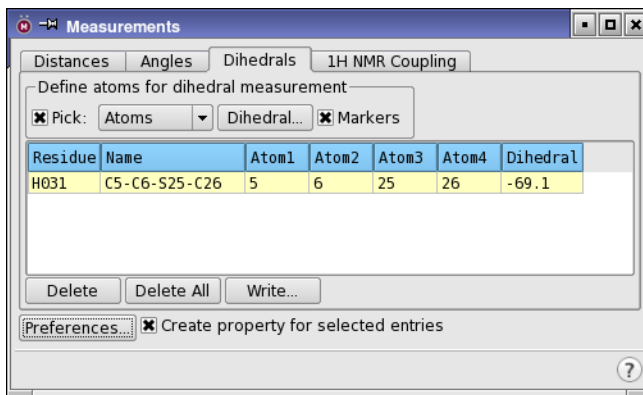

Figure 2.13. The Measurements panel showing the Dihedrals tab.
4. Select Create property for selected entries (see Figure 2.13).